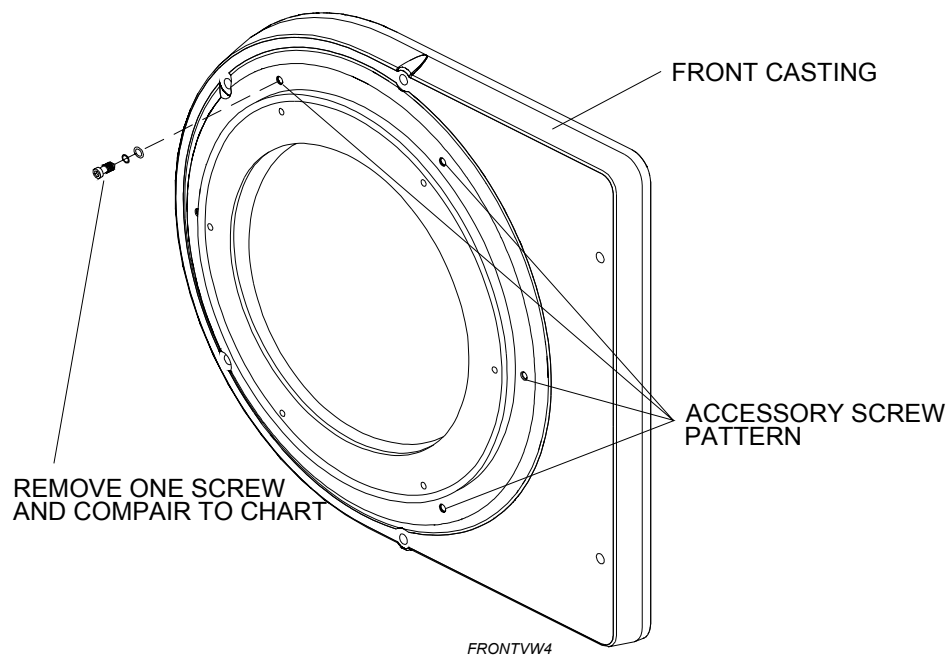

Figure 7.10 - Accessory Screw Removal
2. At head assembly front casting, remove one of six screws from the accessory screw pattern (Figure 7.10).